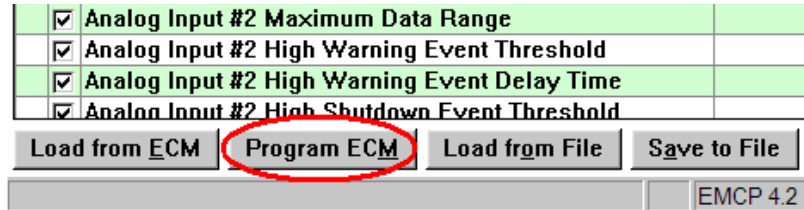

Figure 15.7– Program ECM
7. After any selection changes are completed, click "Program ECM" from the bottom of the ECM Replacement screen to load the file into the EMCP 4. See Figure 15.7.